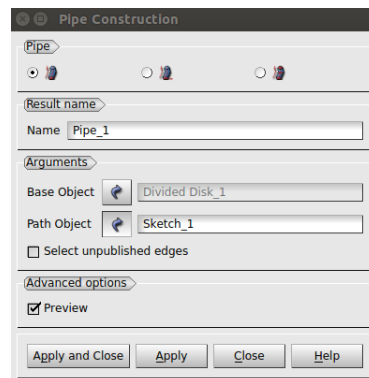
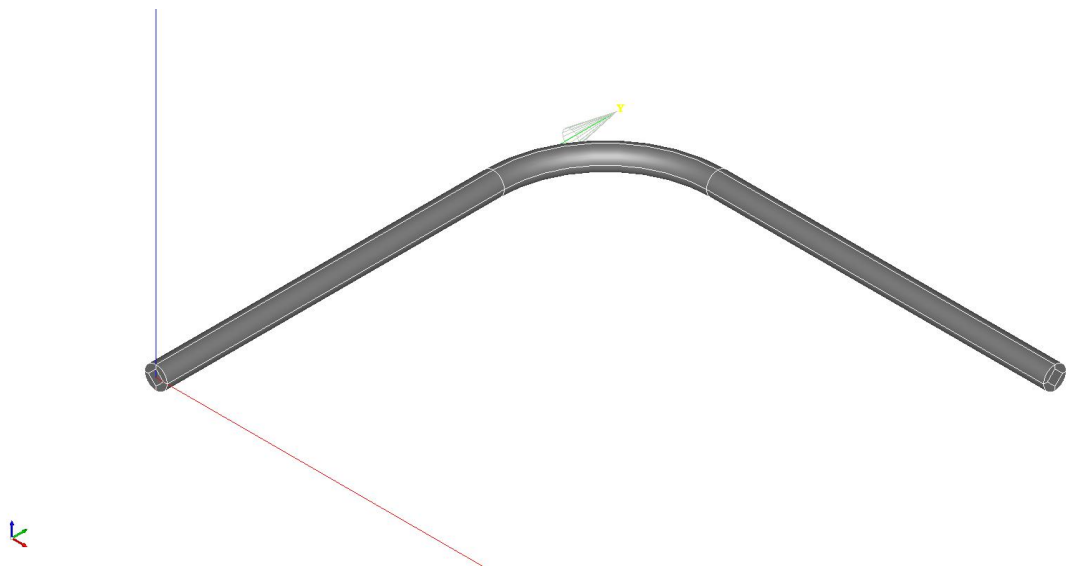

Figure 3.7: Pipe Cnstruction window
Figure 3.8: 3D pipe bend
*Along path.* In the Pipe construction window name the pipe as Pipe-1, base object as Divided Disk-1 and the Patch Object as Sketch-1, Figure 3.7. Click Apply to close the window. 3D bent pipe is now constructed as seen in the Figure 3.8.